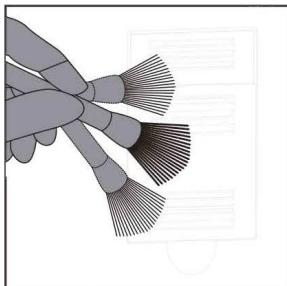

Fig. 8
**REMEMBER! Do not immerse the appliance housing (8) in water! Risk of damage and electrocution!**
1. Clean the air purifier housing (8) and the front panel (1) with a clean, soft and dry cloth. You may use it with a little of water; if so, wipe the air purifier dry afterwards. Use neutral/gentle domestic detergents to remove persistent grime. Thoroughly clean the air filter chamber and the air vents.
2. Gently vacuum the prefilter (2) and then wash it with lukewarm water and dry. If mechanical damage is found replace the prefilter.
3. The HEPA filter (3) and carbon filter (4) can be cleaned with a brush with a very gentle bristle. Be very careful so as not to damage the filters. Do not submerge the filters in water, clean them without any liquids. The air purifier is equipped with the filter replacement indicator. It is indicated by the pulsating air purifier switch LED (6m). Reset the indicator when the filters are replaced pressing and holding the "Reset" button (6e) for at least 5 seconds. However, the filters should be replaced at least every 12 months even if the air purifier does not indicate that they must be replaced.
4. The photocatalytic filter (5) should be replaced every 3 years. However, you should regularly expose it to sunlight (at least 2 hours). It will ensure it is fully operational.
- remove dust from the sensor access panel (12) with a gentle brush (fig. 8)